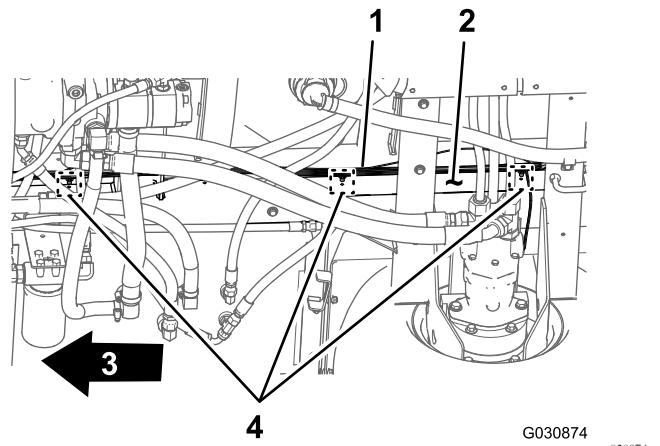

Figure 35
3. Remove the 3 fir-tree anchors that secure the rear wire harness to the holes in the right frame tube of the machine (Figure 35).